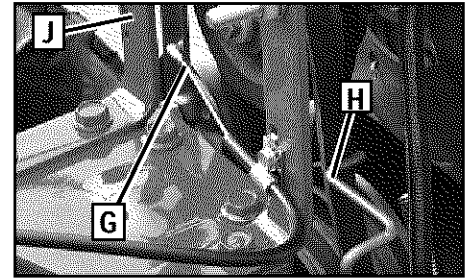

Figure 5-20: Correct forward clutch cable positioning.
NOTE: Be sure to position the clutch cable on the pulley side (G, Figure 5-20) of the left-side cover support bracket (J).
**IMPORTANT:** Belt must be installed behind the belt guide (H, Figure 5-20).